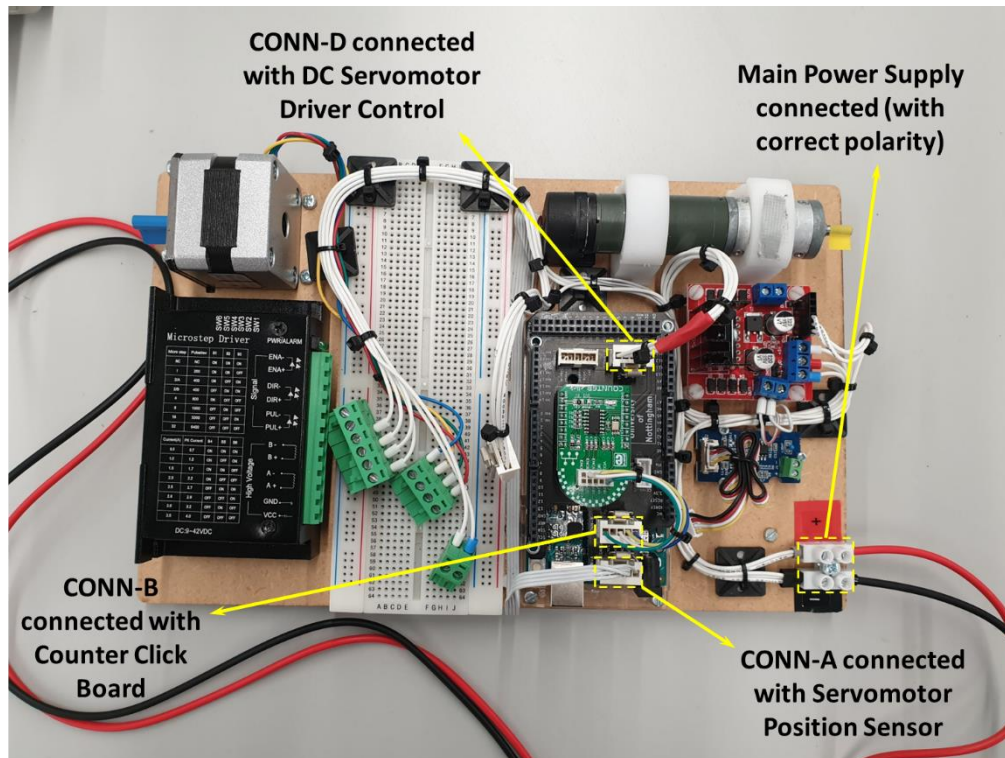

Figure 18 Hardware setup for Lab-1 Exercise-2
9. **Get a demonstrator to check your wiring!** It should look like Figure 18.
3. You should already have CONN-B connected to the Counter Click Board connector and CONN-A connected to the “Servomotor Position Sensor” connector (see Figure 18 from previous exercise).